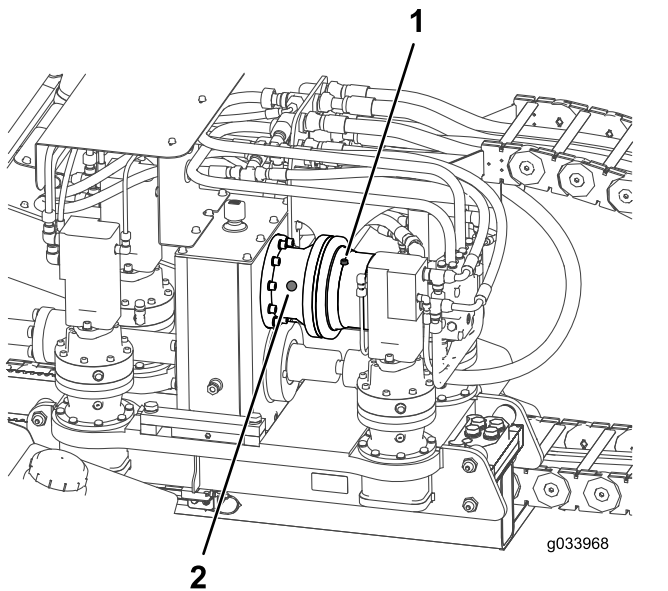

Figure 104
2. Check the oil level on the sight-glass on the rotary motor planetary drive (Figure 104).
3. If the oil level is low, remove the oil-level plug (Figure 104).